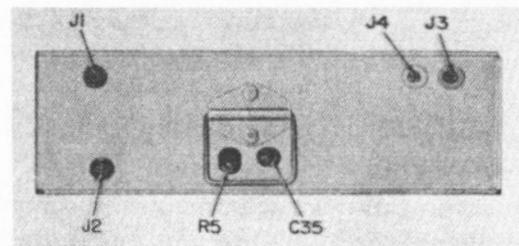

Figure 6-17. Amplifier-Modulator AM-3507/PRC-47 (A2), Top View, Location of Test Points and Adjustments
(4) Using the signal generator, apply an input signal of 498 kc to jack J3 (figure 6-17) on module A2.
(5) Adjust the level of the 498-kc signal so that the vtm reads slightly higher than it would without the signal.